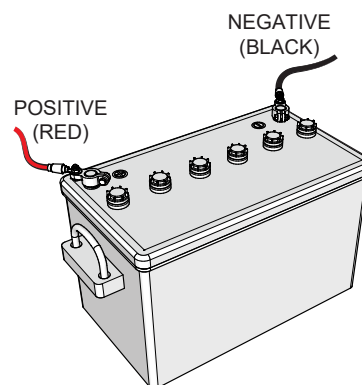

Figure 9. Battery Inspection
The 12-volt DC battery (Figure 9) is shipped wet and ready to use.
2. **MAKE SURE** the positive battery cable (**RED**) is connected to the positive (+) terminal on the battery, and the negative battery cable (**BLACK**) is connected to the negative (-) terminal on the battery. See Figure 9. **NEVER** connect the battery in reverse.